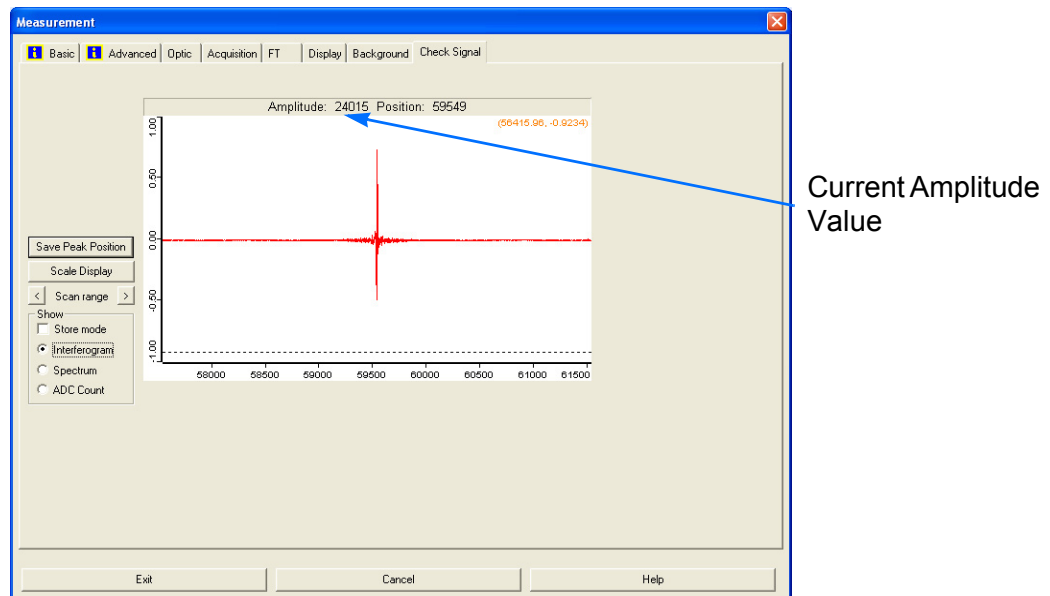

Figure 48: Checking the Signal
- Load an existing standard experiment file (*.xmp) for ATR measurements with the microscope. Then click on the *Check Signal* tab. See figure 48. (For detailed information about this dialog window refer to the OPUS Reference Manual.)
- If the signal is too low the ATR crystal is either damaged, dirty or out of alignment. To find out whether the displayed signal is sufficient, compare the displayed amplitude value (see figure 48) with the one written down in the form *ATR (Ge) Objective Hyperion Acceptance Measurements*. (You will find this form in the blue ring binder containing the final test results delivered with the microscope.) Both values should be more or less the same.